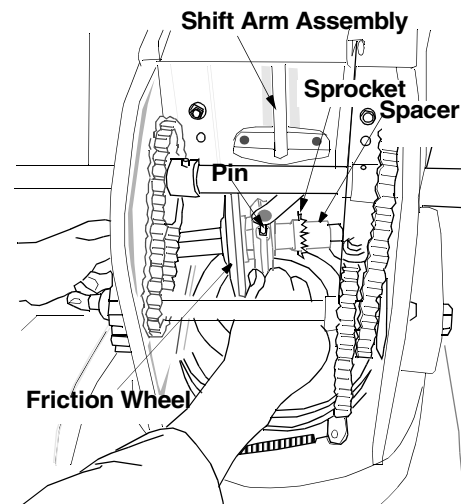

Figure 23
- Using a 7/8” wrench, hold the hex shaft and remove the hex bolt, cupped washer and bearing from left side of the frame. Refer to Figure 23.
- Holding the friction wheel assembly as shown in Figure 23, slide the hex shaft out of the left side of the unit. The spacer on the right side of the hex shaft will fall and the sprocket should remain hanging loose in the chain.
- Insert the pin from the shift arm assembly into the friction wheel assembly and hold assembly in position. Refer to Figure 23.